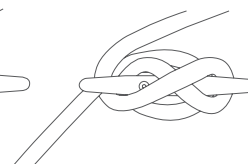

Fig 25 -
2. Then on top of the full loop make a figure of eight and pull tight (Fig 25).